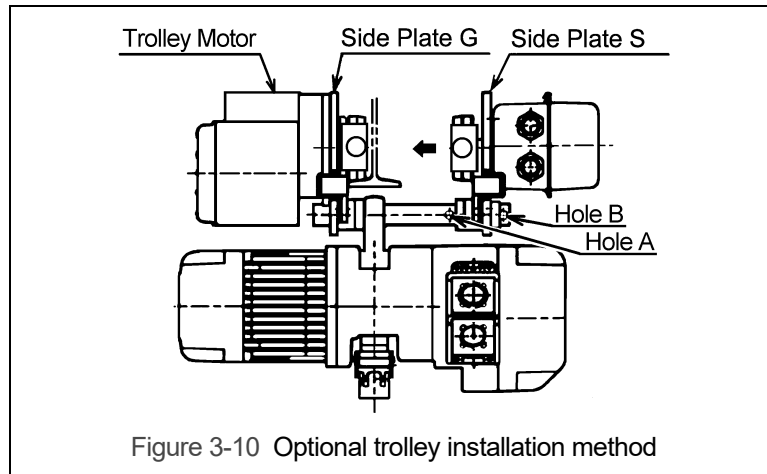

Figure 3-10 Optional trolley installation method
- 1) Move the Shaft Stopper Pin to Hole B (see Figure 3-10).